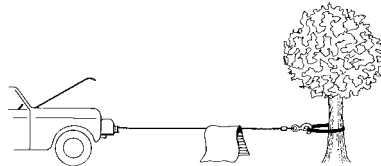

Figure 4
10. It is a good idea to lay a heavy blanket or jacket over the wire rope near the hook end when pulling heavy loads (Figure 4). If a wire rope failure should occur, the cloth will act as a damper and help prevent the rope from whipping. Raise the hood of the vehicle for added protection.